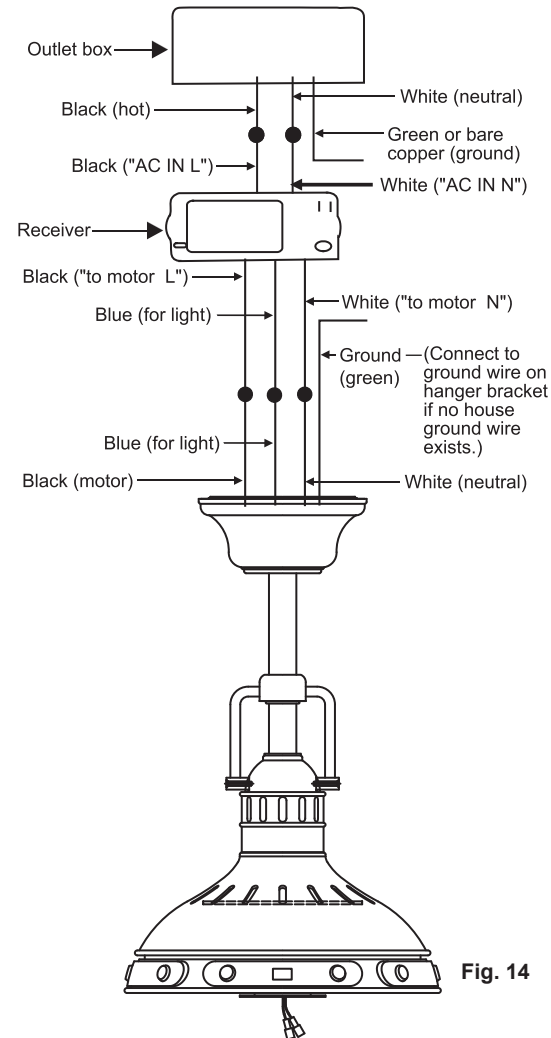

Fig. 14
Step 2. Motor to Receiver Electrical Connections: (**Fig. 14**) Connect the black wire from the fan to the black wire marked "TO MOTOR L" on the receiver. Connect the white wire from the fan to the white wire marked "TO MOTOR N" on the receiver. Connect the blue wire from the fan to the blue wire marked "FOR LIGHT" on the receiver. Secure all the wire connections with the plastic wire nuts provided.
Step 3. (Fig. 14) Receiver to House Supply Wires Electrical Connections: Connect the black (hot) wire from the ceiling to the black wire marked "AC in L" from the receiver. Connect the white (neutral) wire from the ceiling to the white wire marked "AC in N" from the Receiver. Secure the wire connections with the plastic wire nuts provided.
Step 4. (Fig. 14) Connect the ground wire (green or bare copper) from the outlet box to the ground wire on the ceiling mounting bracket and the ground wire from the ceiling fan. After making all connections, separate the white and green wire connections to one side and the black wire connections to the other side of the outlet box.